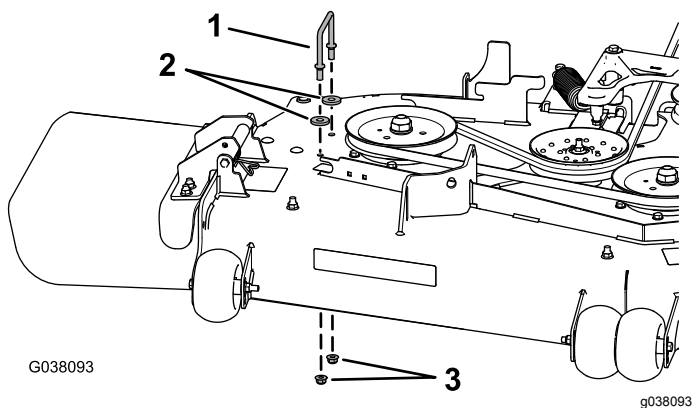

Figure 22
3. Remove the right belt-cover bracket, **2 washers (60-inch mower deck only)**, and 2 flange nuts from the mower deck (Figure 22).